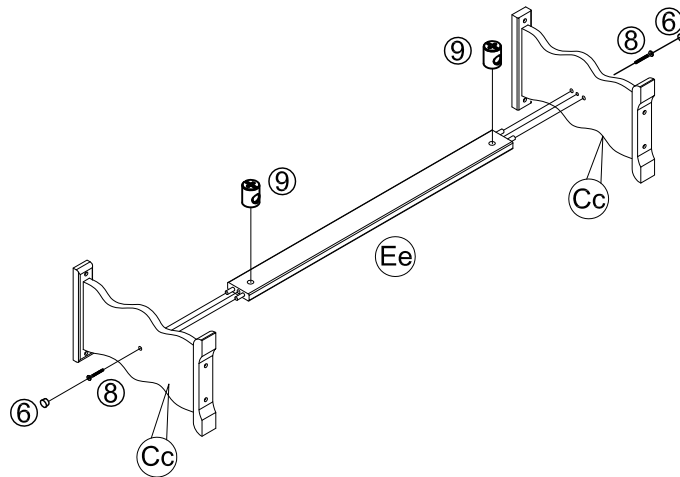

FIGURE 3
- 3.1 ATTACH CROSSBAR #Ee TO LEGS #Cc INSERTING WOOD DOWELS LOCATED AT ENDS OF CROSSBAR INTO HOLES LOCATED ON LEGS. SECURE CONNECTION USING (02) SCREWS⑧AND (02) NUTS⑨. AS SHOWN IN FIGURE 3.
INSERT (02) WOOD HOLE COVERS⑥INTO HOLES LOCATED AT LEGS #Cc AS SHOWN IN FIGURE 3.